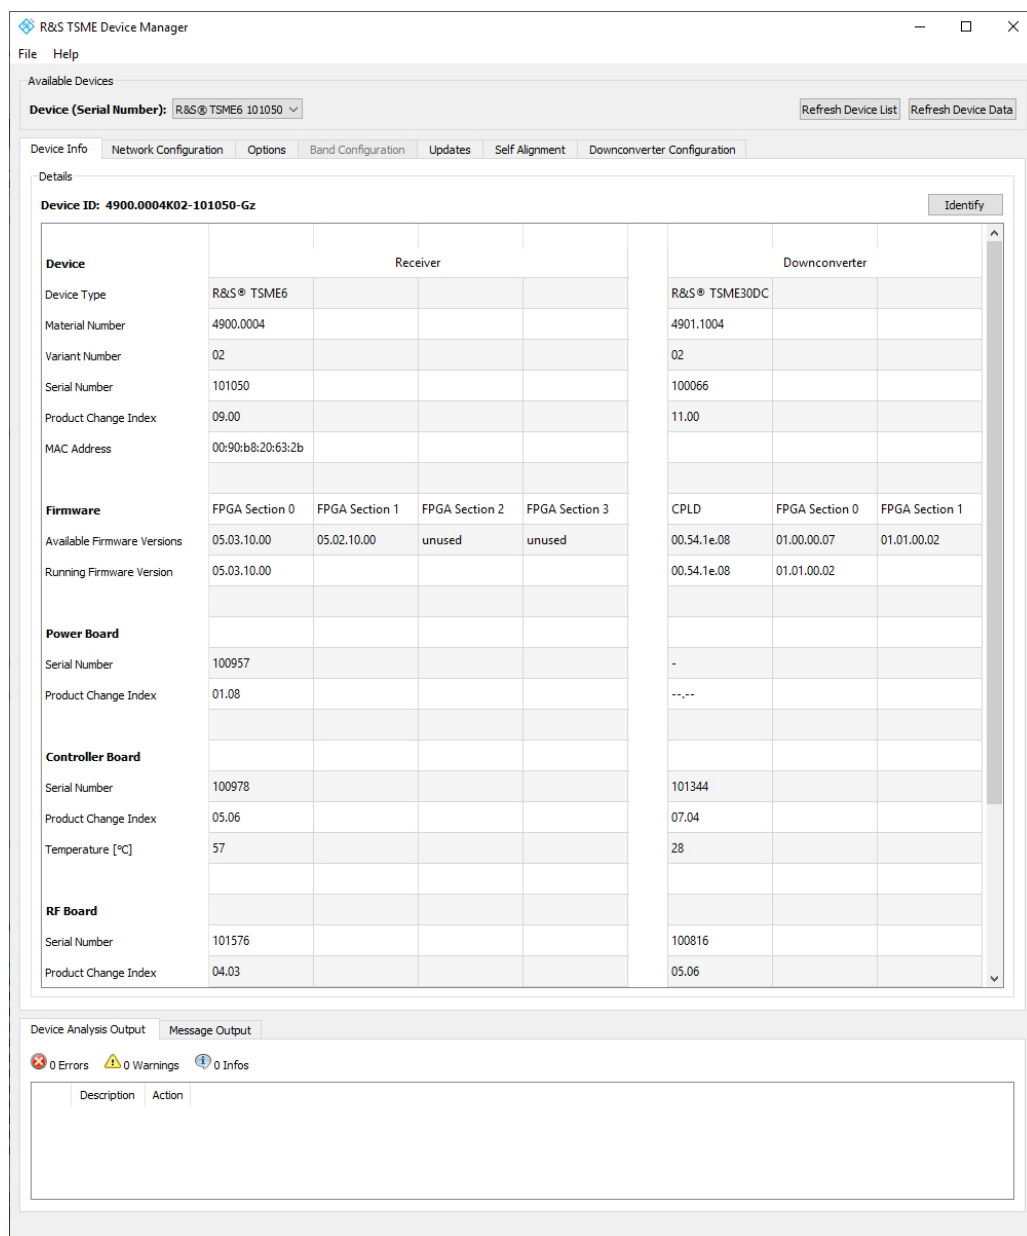

Figure 11-1: Tab "Device Info"
3. If the "Device Info" tab (see Figure 11-1) contains scanner data, the scanner connection has been established successfully.
Furthermore, any warnings, errors or information concerning the device status that may be available are displayed in the "Device Analysis Output" table. This table is available on all tabs, at the bottom of the "R&S TSME Device Manager" window (see Figure 11-1).